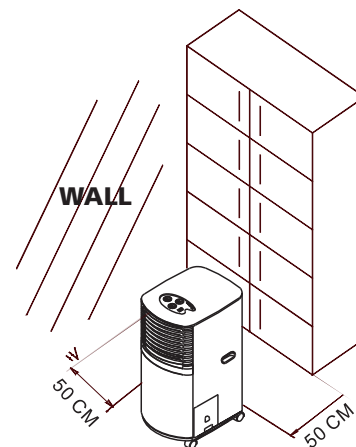

fig. 4
- Keep an air path of at least 50 cm from walls, furniture and curtains (fig. 4).